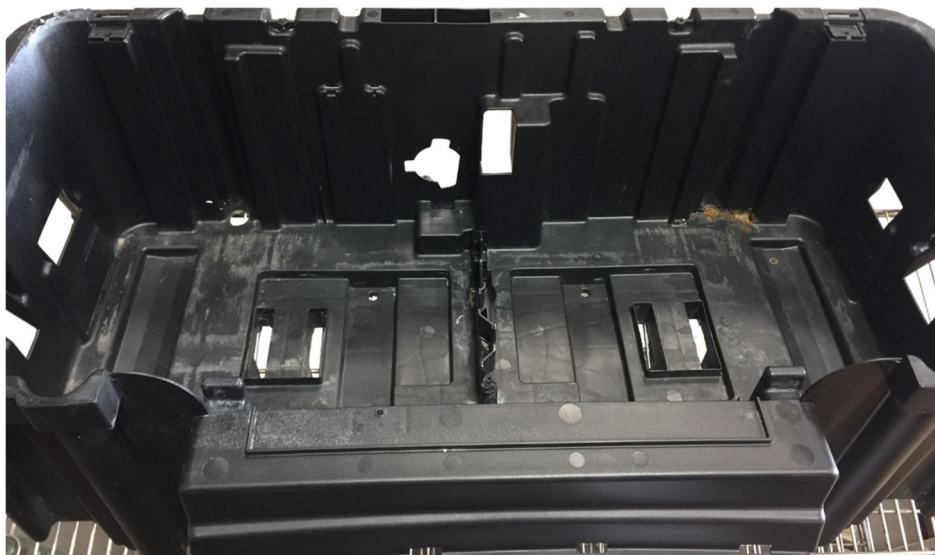

Fig. 4 Looking from the rear of cart forward
1. For reference, here is a stock battery tray/tub that is out of a Club Car Precedent looking into the battery tray area. (Fig.4)